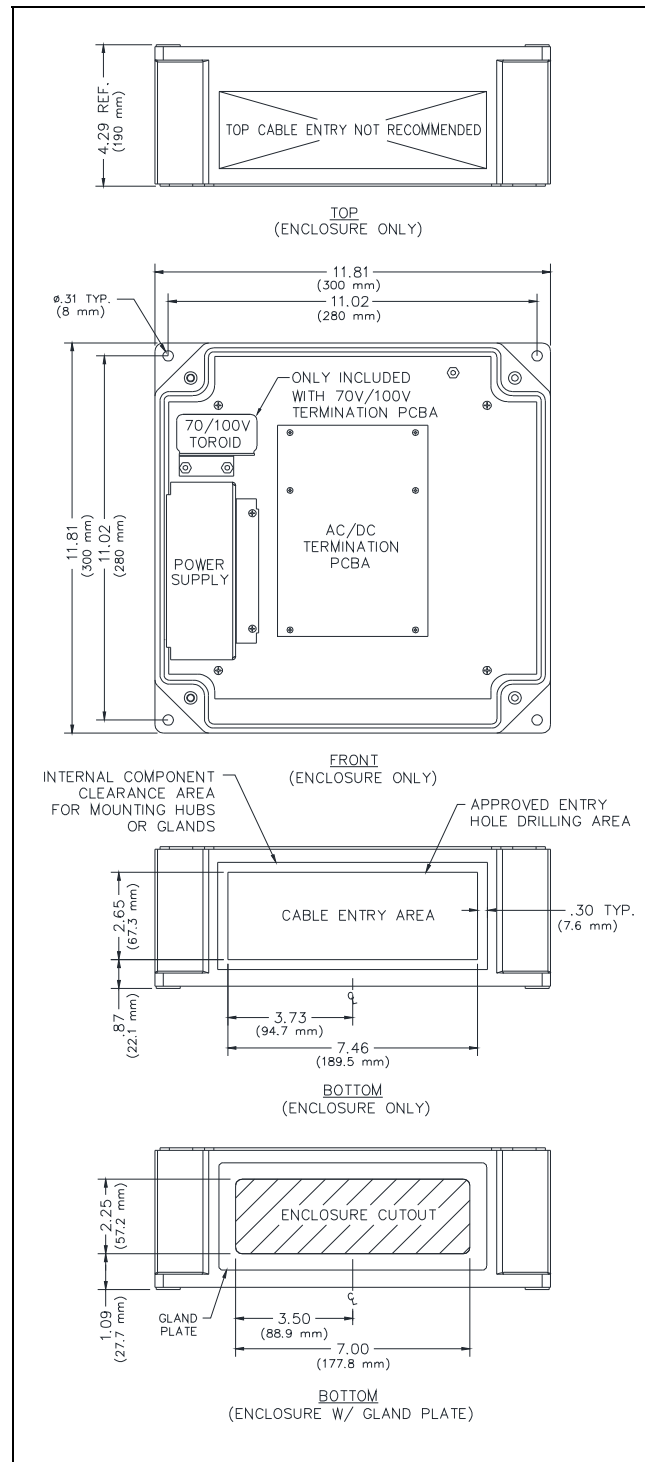

Figure 2. Mounting Details and Suggested Cable Entry Locations
1. Mount the enclosure using the four 0.31-inch (8 mm) diameter holes, located on the mounting flanges, with 5/16-inch (M6) hardware (see Figure 2).
4. Drill or punch wire entry openings in the rear enclosure or gland plate (see Figure 2).